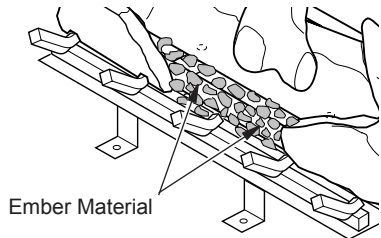

Figure 50 - Placing Ember Material on Burner
- Pull ember material apart into pieces no larger than a dime. Place these pieces loosely and sparingly directly onto exposed section of front burner and along space between burner and grate prongs (see Figure 50). This will create the glowing ember appearance as the flame touches the ember material. Do not block air slots by using too much ember material